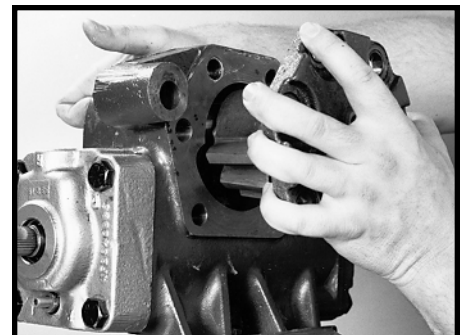

Figure 149
41. Clean off any old tape on the sector shaft (50) serrations. Retape the serrations and bolt groove with one layer of masking tape. Install the sector shaft and side cover (58) into the gear housing (20) as an assembly. Make sure that the center tooth of the sector shaft engages the center space (between the second and third teeth) of the rack piston. SEE FIGURE 149.